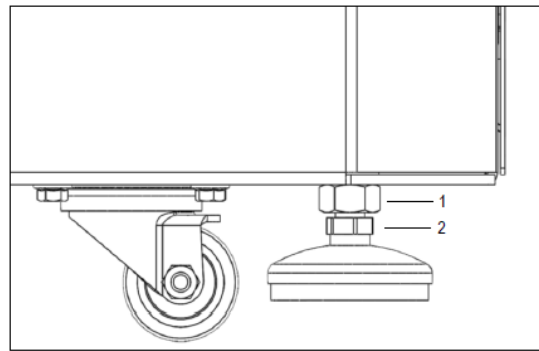

Figure 3
- Only FC5917RF and FC5917RF Short: Move the centrifuge on its intended location. Unscrew the lock nut (1) with an open-ended spanner AF M16 (see **Figure 3**). Turn the appliance feet (2) down with an open-ended spanner AF M13 until they are firmly on the floor surface. Now the centrifuge has to be leveled horizontally, using the four appliance feet. Therefore, mount the associated rotor on the motor shaft and place a spirit level on it. After leveling the appliance feet, tighten the lock nut. The rollers should not touch the ground anymore.